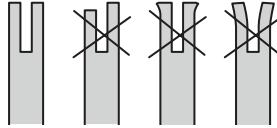

Fig. 38
5. Check the guide bar 'rail' for wear: Hold a ruler (straight edge) against the side of the guide bar and 'cutter side plates'. If there is a gap between the ruler and guide bar, the guide bar 'rail' is normal. If there is no gap (ruler flush against the side of the guide bar) the guide bar 'rail' is worn and needs to be replaced with a new one of the same type (Fig. 38).